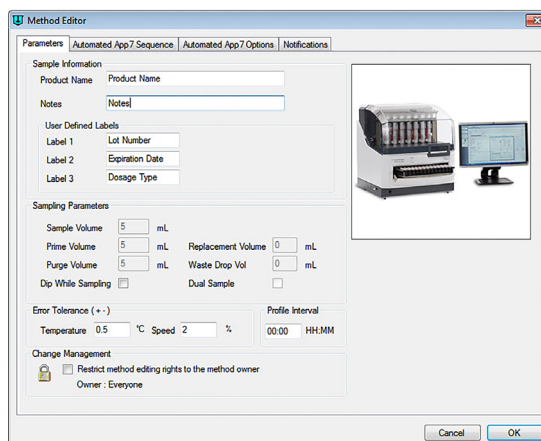

Figure 17. Method Editor Screen
- 3 Click **Properties** on the navigation bar. The Method Editor screen displays (see **Figure 17**, “Method Editor Screen,” on page 61).